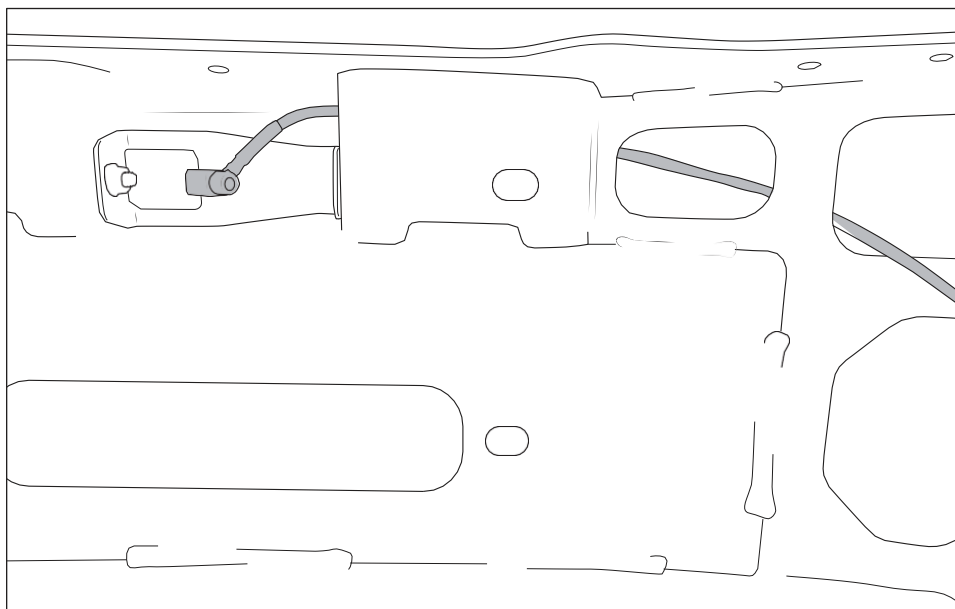

Figure 9
6. Continue with the Front Bumper installation. Just before mounting the center section to the vehicle, route the camera harness through the front bumper as shown (fig. 9) and plug into the camera.